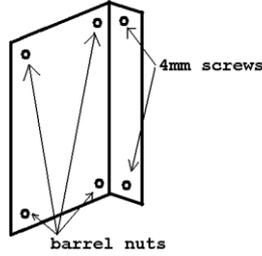

Figure 7. SDM-4 bracket assembly
1. Screw the 4 Barrel Nuts into the 4 threaded inserts in the corners of the SDM-4 mounting bracket as per Figure 7.